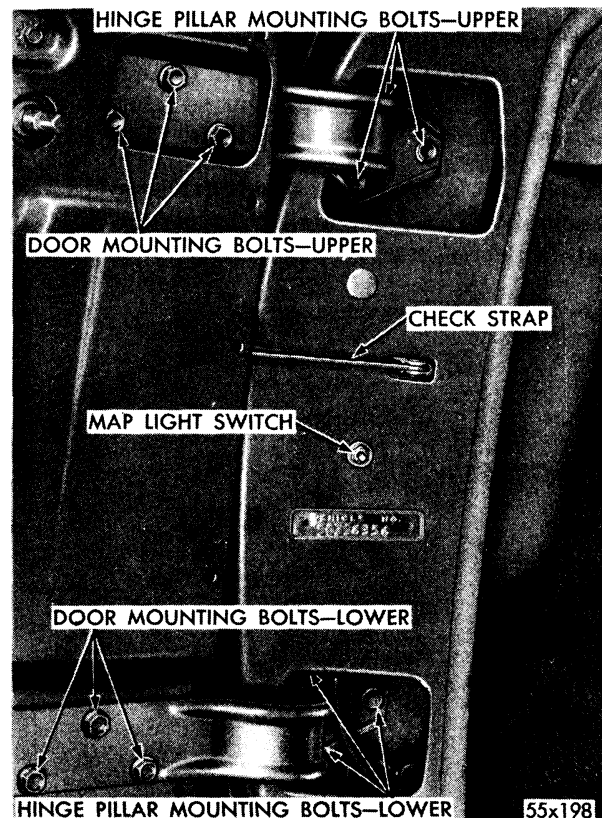

Fig. 16—Front Door Hinges
To correct the fit, loosen the four hinge strap screws on front doors or the three hinge strap screws on rear doors. When loosening the upper hinge and pulling out or pushing in on the front upper corner of the door, the lower corner of the door will be moved inward or outward also. When the operation is performed on the lower corner of the door, the same condition will result. This applies to both front and rear doors. (Figs. 16 and 17.)
9. FRONT DOOR HINGE ADJUSTMENTS (FIG. 16)